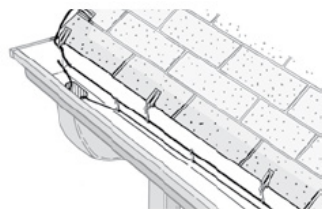

**Figure 19. Attaching clips in gutters**
- Route the cable in the gutter along a treated area of roofline. Using a spacer, fasten the gutter cable to the bottom of each drip loop you have formed. See Figure 19. Keep the cable in the gutter tight and off the bottom of the gutter to prevent heat loss.